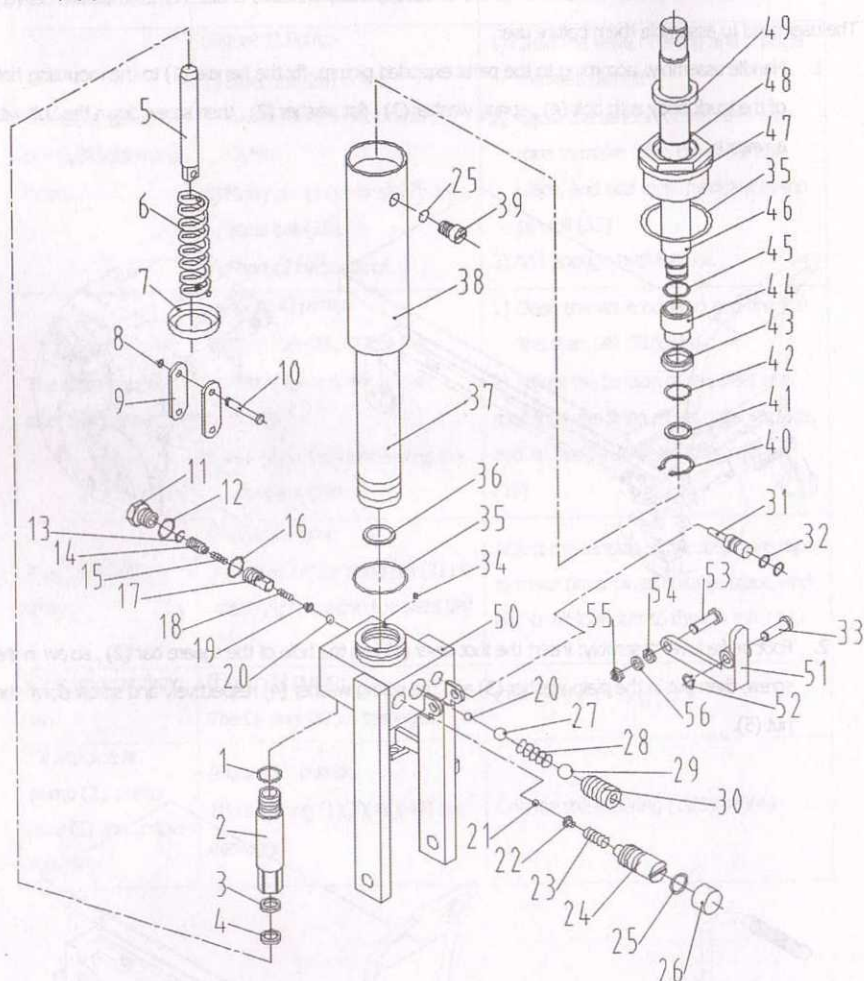

Figure 1
Screw out the 11# sealing screw in the pump (see figure 1 : pump) with a wrench; Pull the knob up; Unscrew the oil plug screw 39# and add hydraulic oil;
8. Materials of the sealing parts 1#, 3#, 4#, 16#, 25#, 26#, 32#, 35#, 36#, 42#, 43#, 45#, 48#, 49# of the pump (see figure 1 : pump) is rubber, PU, whose maintenance interval is 2-year. Replace the sealings in time to avoid possible damage and poor performance of the truck.